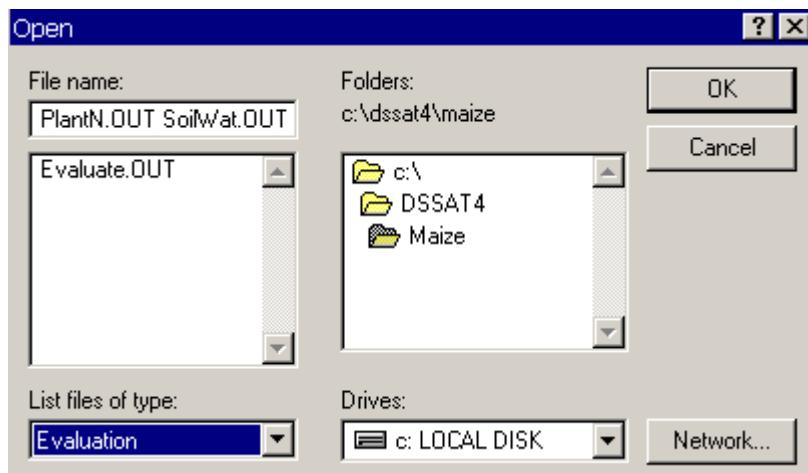

Figure 7. Evaluation files.
- **Evaluation**: Evaluate.out and (*.oev) files (Fig.7);